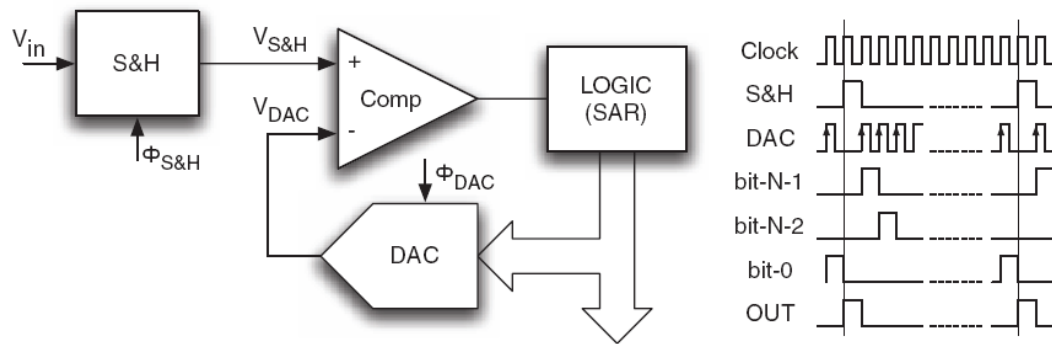

Figure 4.29. Basic circuit diagram of the successive approximation algorithm.
- Fig. 4.29 shows a typical block diagram.